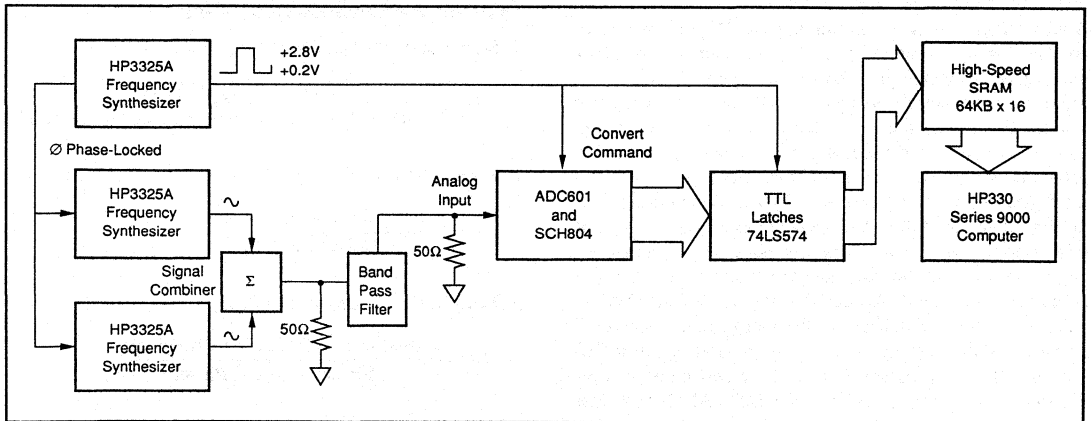

FIGURE 15. Block Diagram of FFT Test for Two-Tone IMD.
IMD two-tone testing shown in Figure 15 is referenced(3) to the larger of the test signals  $f_1$  or  $f_2$ . Five "bins" either side of peak are used for calculation of fundamental and harmonic power. The "0" frequency bin (DC) is not included in these calculations as it is of little importance in dynamic signal processing applications.